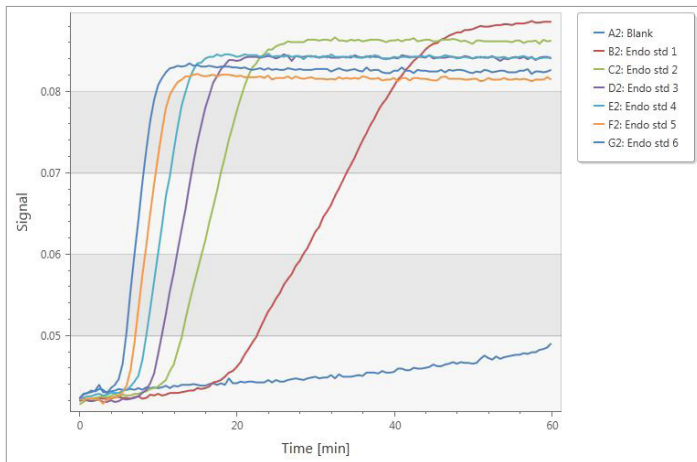

Figure 1: Typical kinetic curves of the turbidimetric endotoxin assay with Multiskan FC.
The turbidimetric endotoxin assay produces kinetic curves as optical density (OD) values increases due to clot formation. The higher the endotoxin concentration in the sample, the faster is the clotting formation and the sooner the reaction curve reaches a plateau, as seen in **Figure 1**.